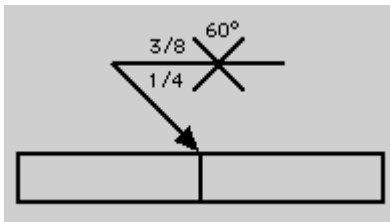

Figure 3
- (a) Determine the type of joint design of **Figure 3**. (2 Marks)